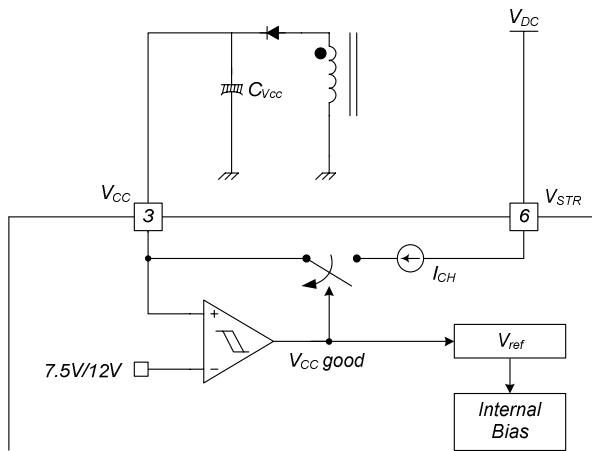

Figure 17. Startup Block
**1. Startup:** At startup, an internal high-voltage current source supplies the internal bias and charges the external capacitor ( $C_{VCC}$ ) connected to the  $V_{CC}$  pin, as illustrated in Figure 17. When  $V_{CC}$  reaches 12V, the FSGM0765R begins switching and the internal high-voltage current source is disabled. The FSGM0765R continues normal switching operation and the power is supplied from the auxiliary transformer winding unless  $V_{CC}$  goes below the stop voltage of 7.5V.